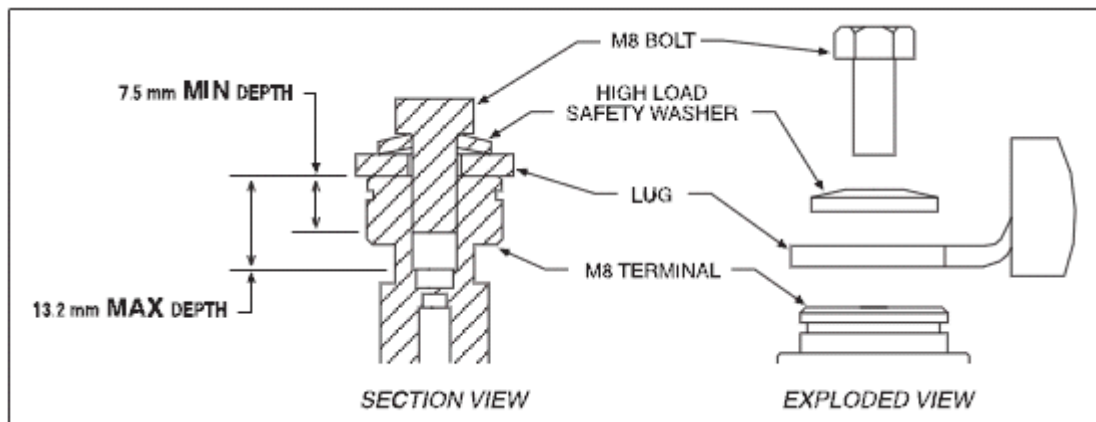

Figure 4-6 Heavy Cable Hardware and Assembly
8. Reassemble in reverse order. All cables installed on the motor controllers must use all the required Landoll approved fasteners and be in the correct assembled order. (See Figure 4-6) Refer to the Bendi AC Parts Manual for replacement parts.